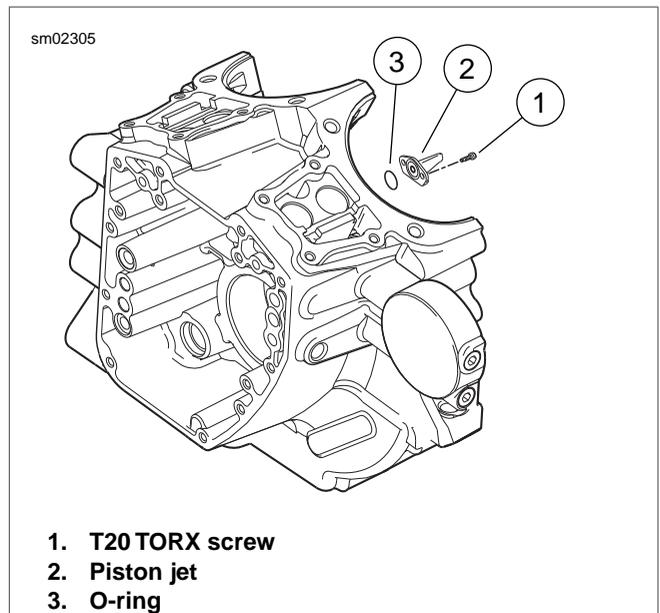

Figure 3-126. Piston Jets
- See Figure 3-126. Remove two T20 TORX screws (1) to free piston jet (2) from crankcase.
- Remove o-ring (3) from groove in mounting flange of jet. Discard o-ring.
- See Figure 3-126. Apply a very thin film of clean H-D 20W50 engine oil to **new** o-ring (3) for piston jet. Install **new** o-ring in groove of jet mounting flange.
- With jet pointed upward, start two T20 TORX screws (1) to secure piston jet (2) to crankcase. Tighten to 25-35 in-lbs (2.8-3.9 Nm).